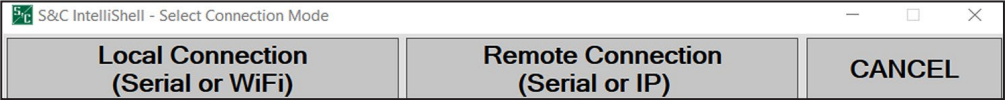

Figure 12. The S&C Electric IntelliShell—Local Communication Setup dialog box.
STEP 1. Start the IntelliLink software and select between a local or remote connection. See Figure 12.